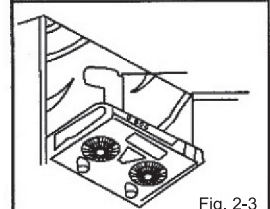

Fig. 2-3
- 1) Install exhaust vent to the window above cooking surface (Fig. 2-3). Knock out one piece of glass. Install a plywood that allow the exhaust duct to pass through. Never damage the wall.